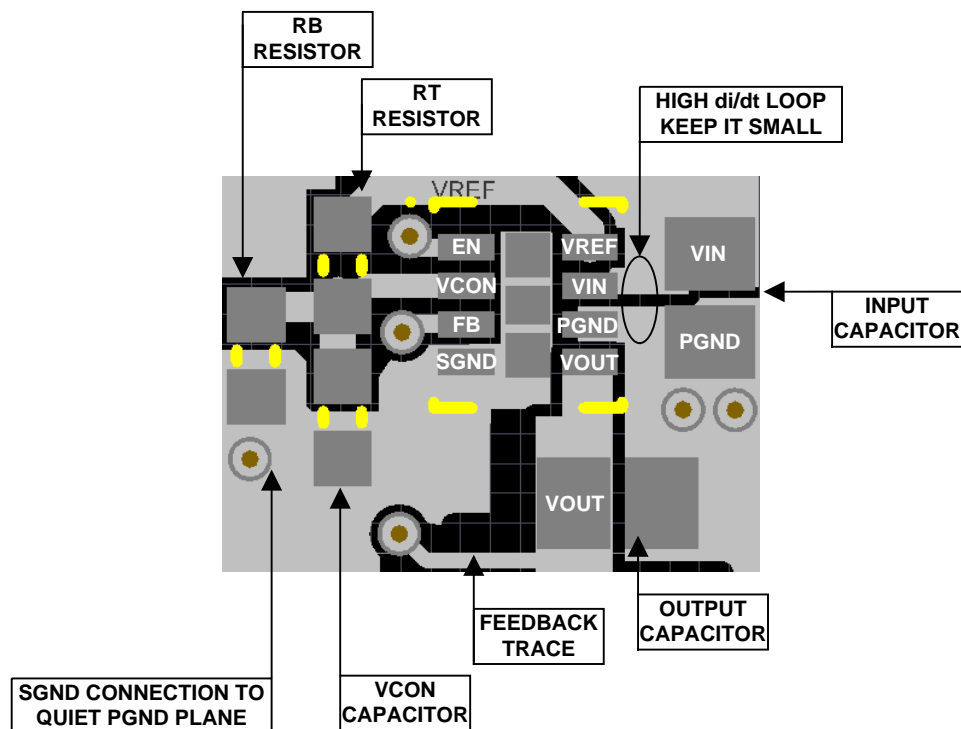

Figure 37. Example Top Layer Board Layout
The LMZ10501 integrates the inductor and simplifies the DC/DC converter board layout. Refer to the example layout in Figure 37. There are a few basic requirements to achieve a good LMZ10501 layout.
2. Place the V_{CON} filter capacitor C_{VC} and the R_B R_T resistive divider as close as possible to the V_{CON} and SGND pins. The C_{VC} capacitor (not R_B) should be the component closer to the V_{CON} pin, as shown in Figure 37. This allows for better bypass of the control voltage set at V_{CON} .